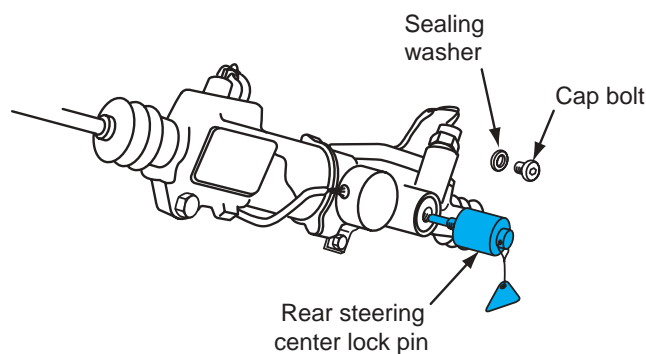

Figure 13-6 Removing the cap bolt and washer, and installing the rear steering center lock pin.
7. Remove the cap bolt and washer and install the **rear steering center lock pin** (Figure 13-6).